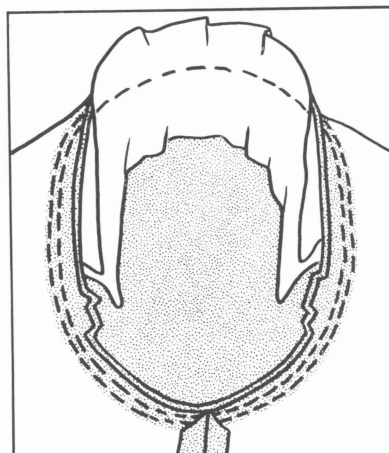

Figure 34. Stitch along armhole seamline and fold of sleeve head.
4. Stitch along the marked line through the fold line of the sleeve head and on the armhole seamline through all thicknesses (Figure 34).